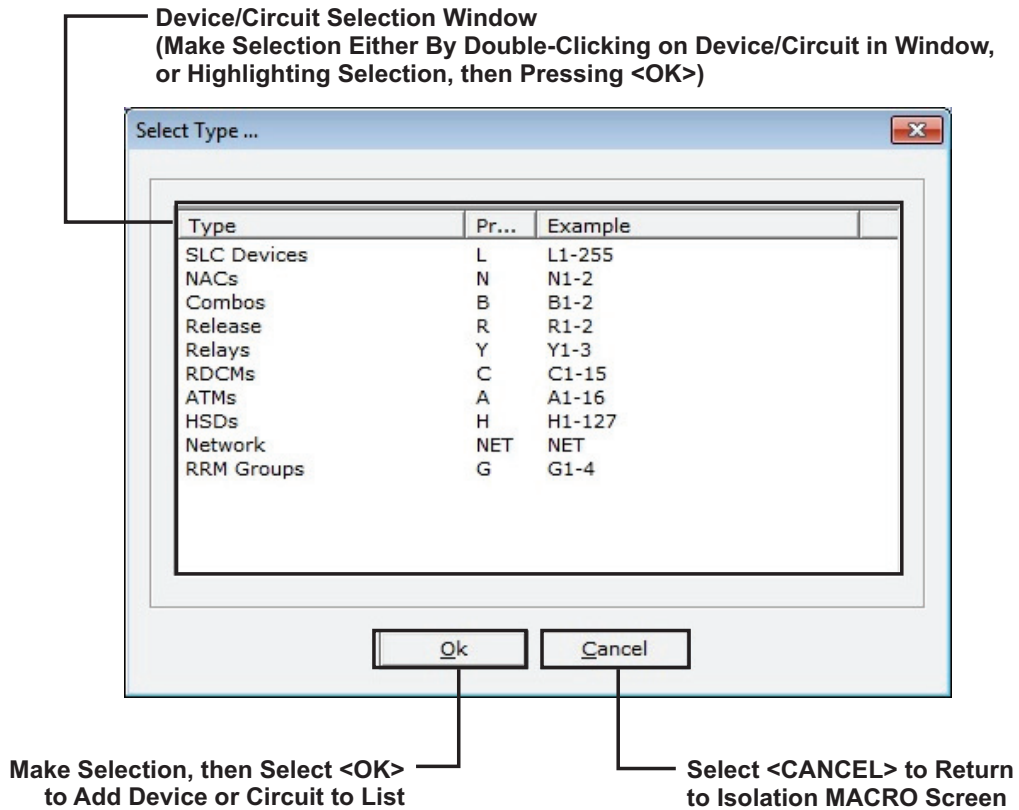

Figure 2-49. List of Selections for MACROs Screen
1. Select the **<Add>** button. Choose the initiating devices and/or output devices/circuits from the list shown in Figure 2-49.